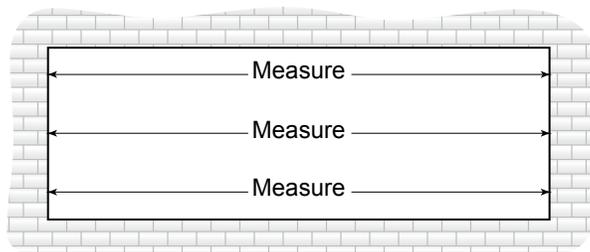

Fig. 19.2
- B. Measure the width of the opening at the top, middle and bottom. Select the smallest of these dimensions and subtract the left and right caulk joint width per approved shop drawings (1/4" min caulk joint at each jamb). **SEE Fig. 19.2.**